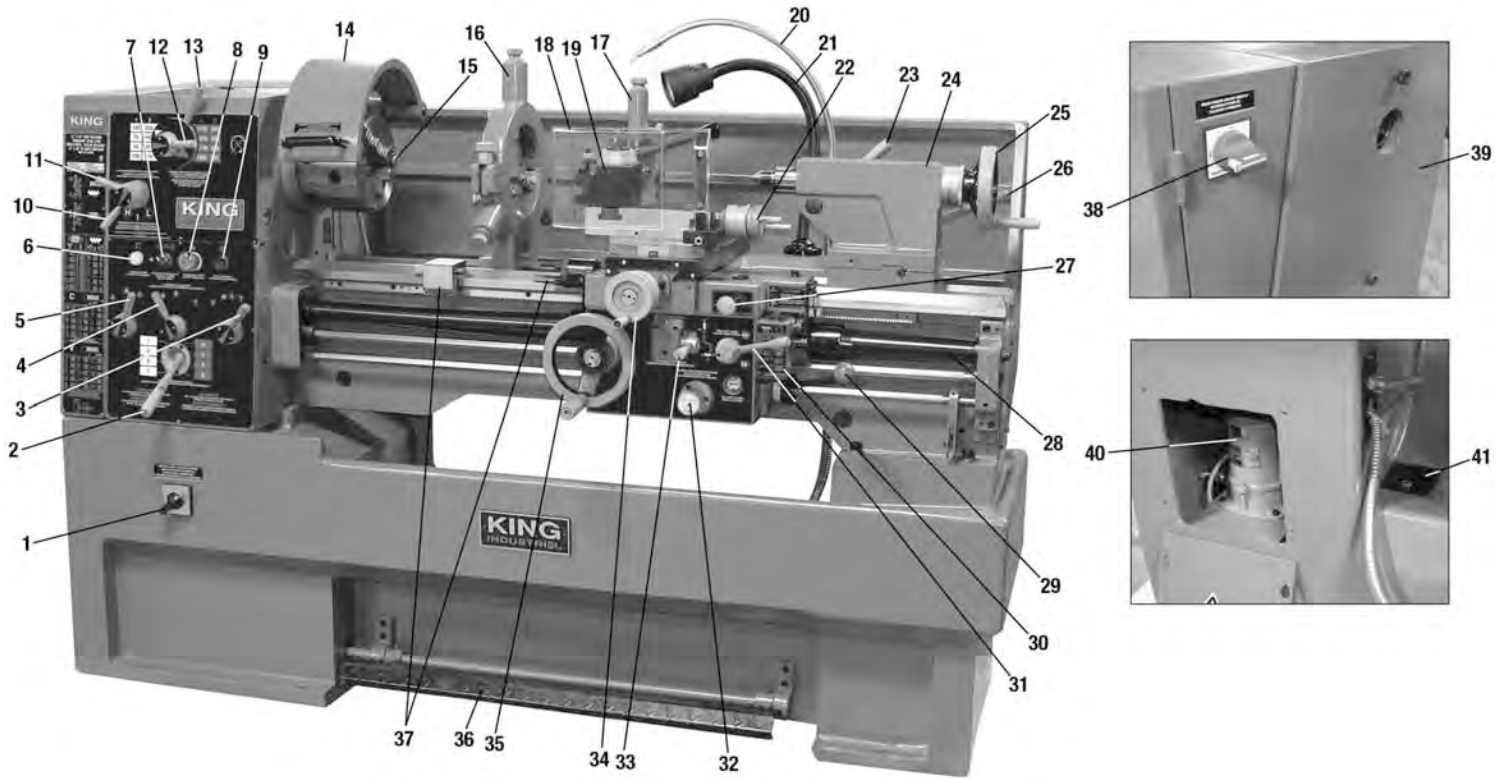

FIGURE 1
1. Turn the main On/Off switch (#38) Fig.1 to the On position.
11. Push the foot brake (#36) Fig.1, the lathe should come to a complete stop.